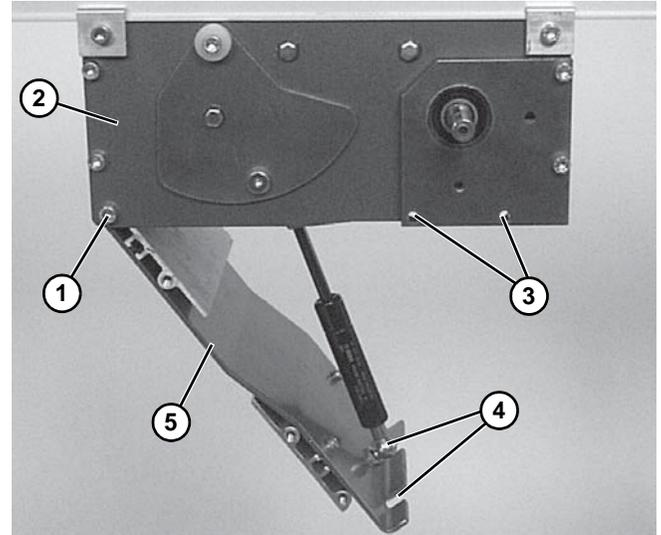

Figure 45
2. Loosen corner screws (**Figure 45, item 1**) on each side of the drive module (**Figure 45, item 2**).
3. Remove tension door screws (**Figure 45, item 3**) on each side of the drive module.
4. Using finger grip holes (**Figure 45, item 4**), open the tension door (**Figure 45, item 5**) to release conveyor belt tension.